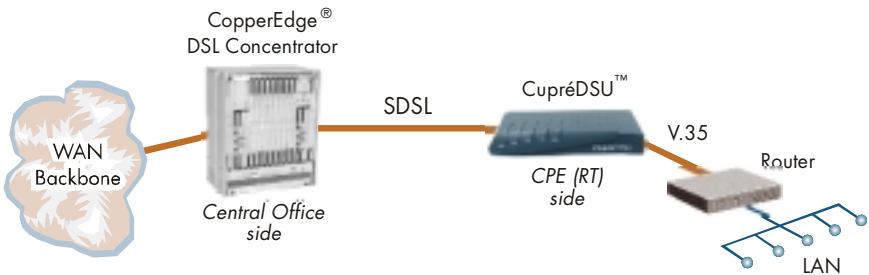

Figure 1-2. Service Provider Application
The default configuration of the CupréDSU is that used in a **Service Provider** application (Figure 1-2). In this application, a single CupréDSU is connected as a CPE (also called RT for remote terminal) device through the SDSL port to a Service Provider's DSLAM located at the remote Central Office (CO). *No configuration by the user is necessary; the CupréDSU will work directly as shipped.*